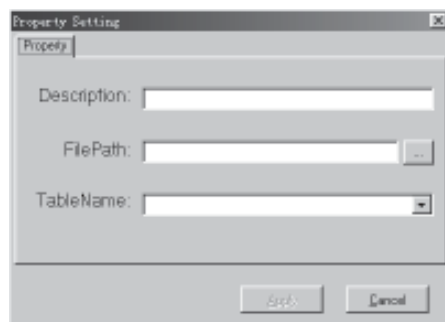

**Fig. 8-21 Select the Page Key ;°Design;±**
2. Design the Report: Select the page key ;°Design;±and the listing table is empty if opened for the first time, as in Fig. 8-21.
In Fig. 8-21, enter the name describing the use of the report in the position of `°Description;` and the path and name of the report in the position of `°FilePath;` or click the button `...` to open the dialogue block of selecting the files to be opened. Then click the button `°Apply2;` in Fig. 8-24. And at the same time, a new record is added to the listing table frame as in Fig. 8-25.